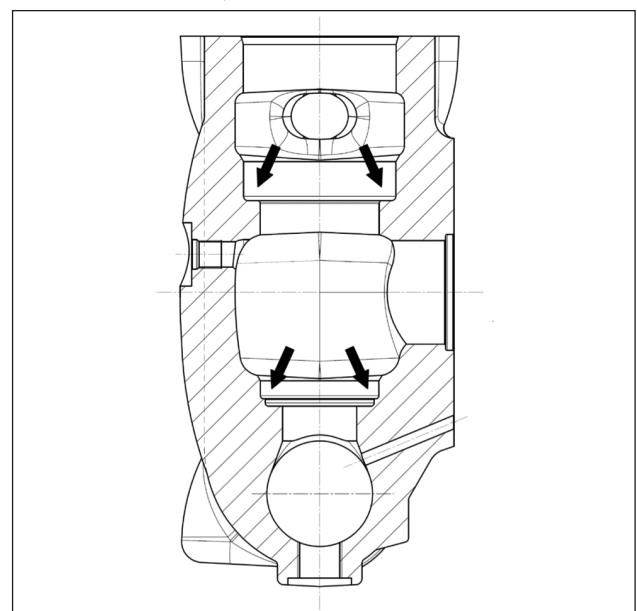

Fig. 115
**Before repositioning the valve units, thoroughly clean and dry the relative housings on the head indicated by the arrows (pos. ①, Fig. 115).**